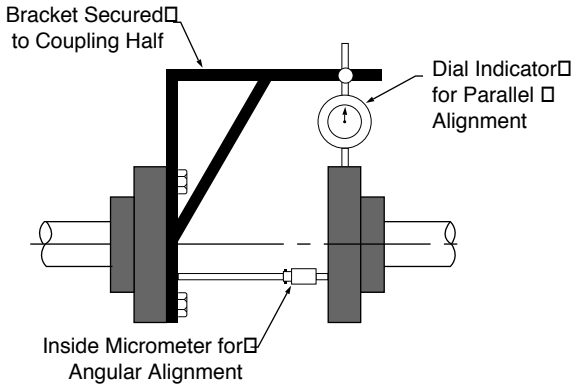

FIGURE 81. Method of Checking Alignment on a Spacer Coupling
- for the parallel misalignment check, a bracket is attached to one coupling half for mounting of the dial indicator. The adjusted method is illustrated in Figure 81.